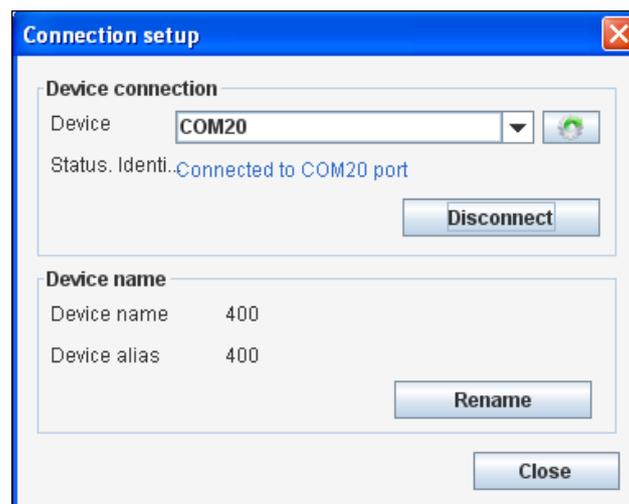

Fig. 5. RVLM– Device name
- Rename the device in the field “Device alias”, click on “Apply” and then click on “Close” (fig.5). **Note:** when you connect the same device to the same pc, the RVLM software will recognize the alias device; it is important to give different alias to devices when you are connecting more devices at the same time.